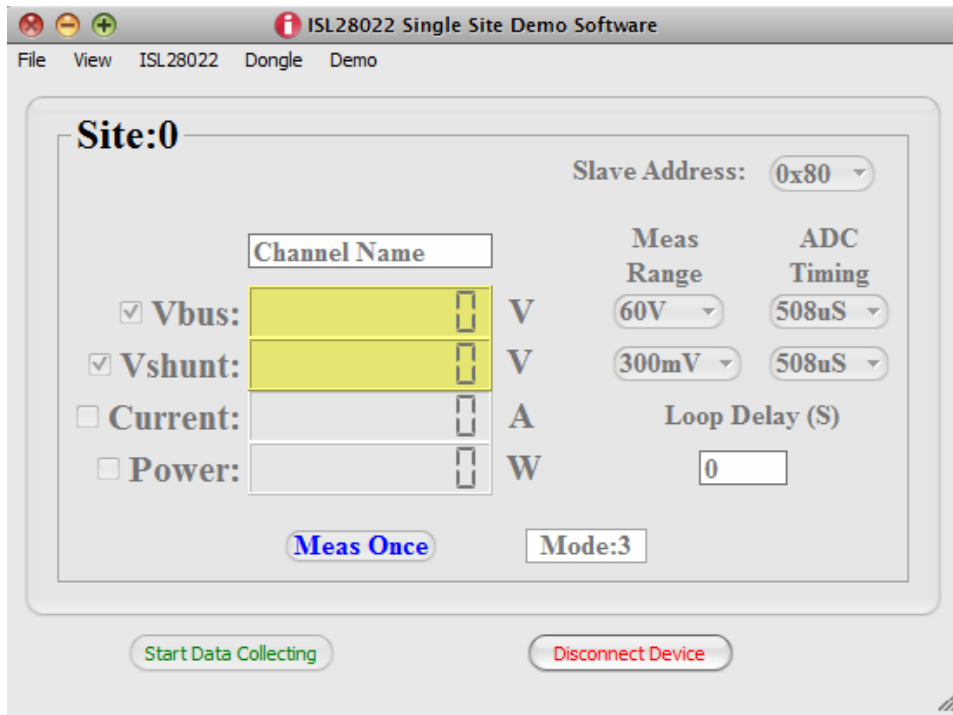

FIGURE 3. ISL28022 EVALUATION KIT SOFTWARE WINDOW
- To run the program, go to the "Start" menu and choose the ISL28022 Evaluation Kit folder, then choose the ISL28022 Evaluation Kit icon. Once clicked, the demo software window should appear as illustrated in Figure 3.
The file name entered in the dialog box is the base name for all files saved. A unique named file is generated for each measured parameter (Vbus, Vshunt, Current, Power) across 8 channels. The software only saves data to a file for each measured parameter selected. If a measured parameter is not selected, then a file with the non selected measured parameter is not generated. For example, power and current files would not be generated for the configuration of the DPM window shown in Figure 3 on page 3.